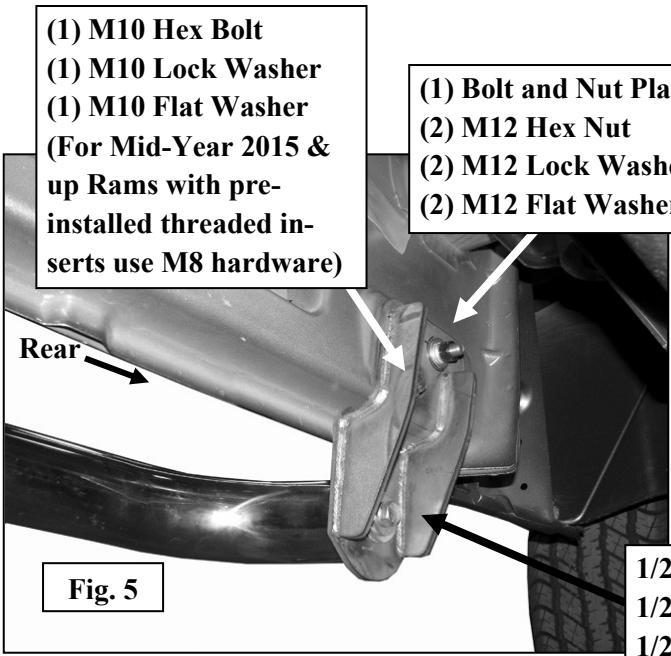
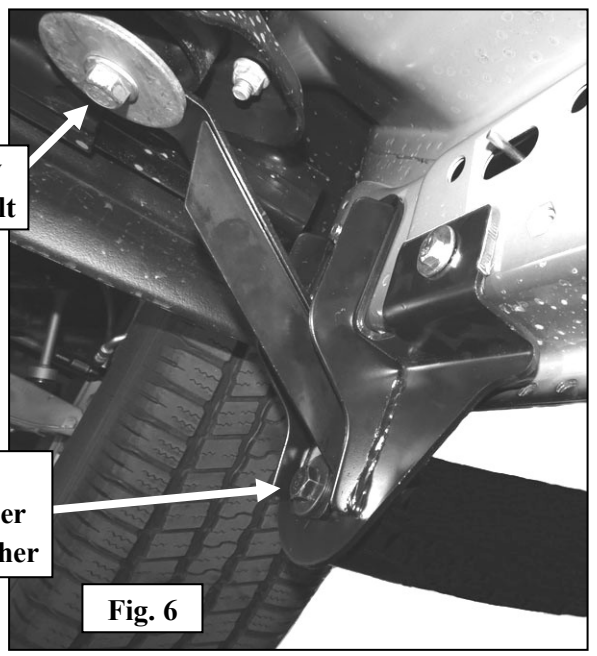

Fig. 5
Fig. 6
8. Select the passenger side rear Mounting Bracket. Position the Mounting Bracket onto the installed Bolt and Nut Plate. Secure it with (1) M12 Flat Washer, (1) M12 Lock Washer and (1) M12 Hex Nut, (**Fig. 5**). Do not tighten at this time. Rotate the Bolt and Nut plate until the threaded Nut end lines up with the remaining hole in the Mounting Bracket and body. Thread (1) M10 Hex Bolt, (1) M10 Flat Washer and (1) M10 Lock Washer into the threaded nut on the Bolt and Nut Plate. **For mid-year 2015 Rams equipped with pre-installed 8mm threaded inserts at rear location, there is no need to align threaded nut with bracket and body. Instead, substitute (1) M8 Hex Bolt, (1) M8 Flat Washer and (1) M8 Lock Washer for the M10 hardware.** Snug, but do not tighten hardware at this time.
9. Select the passenger Side Step Bar and fasten it to the front Mounting Bracket and Support Bracket with the included (1) 1/2" Hex Bolt, (1) 1/2" Lock Washer and (1) 1/2" Flat Washer, (**Fig. 6**). Do not tighten hardware at this time. Attach the Side Step Bar to the Rear Mounting Bracket with (1) 1/2" Hex Bolt, (1) 1/2" Lock Washer and (1) 1/2" Flat Washer, (**Fig. 5**).